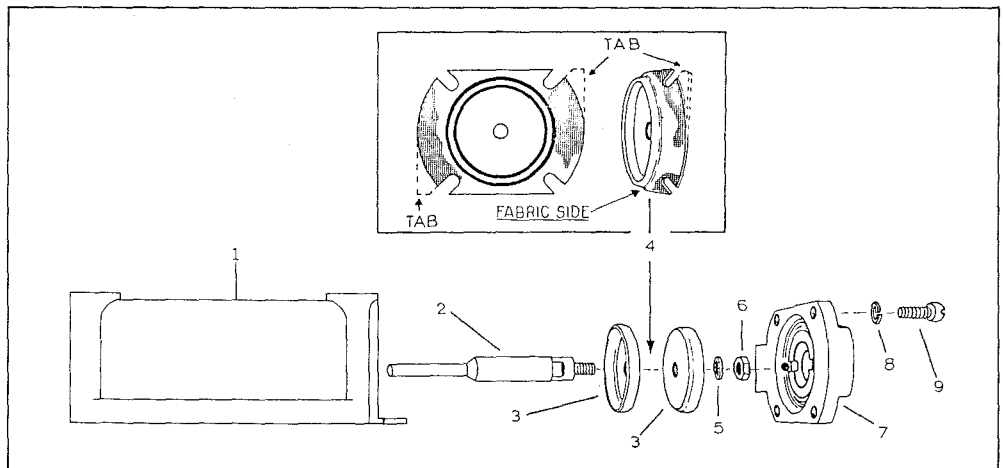

FIGURE 2-166
- (5) Clean components as follows:
6.2 Inspection Of Puff Limiter Cover Assembly — see figure 2-166
New diaphragms have tabs (as shown in figure 2-166) which aid in proper diaphragm installation. Assemble diaphragm and piston rod so that when installed, the "ears" will be at 10 o'clock and 4 o'clock positions with diaphragm cover air inlet hole at the 3 o'clock position as viewed from supply pump end.